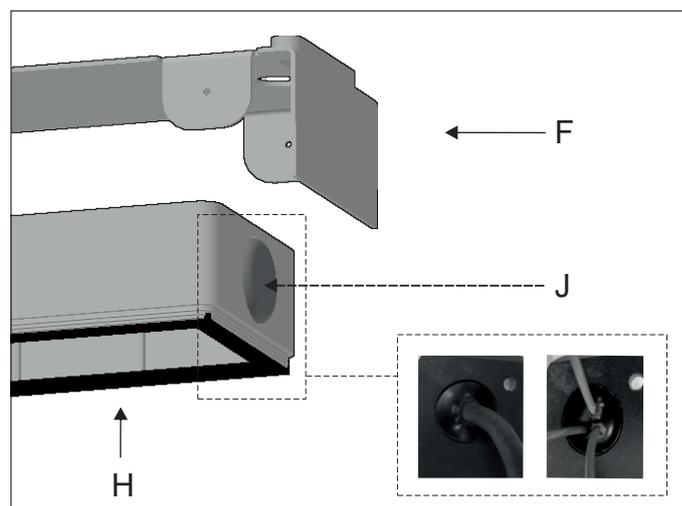

Figure 4B
Separate the mounting bracket (F) from the IP box (H) where you will place the driver (H). Drill a hole in the two side grommets (J) to run the cables through. Figure 4B